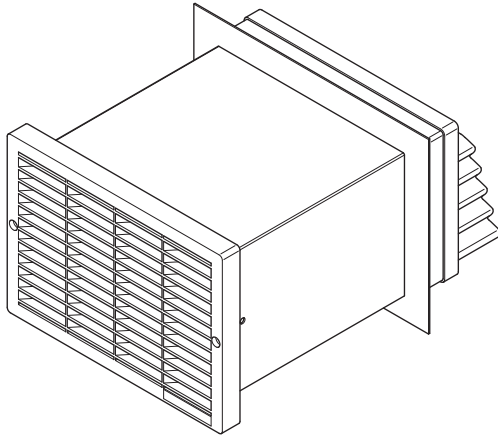

Fig. 1
3. Installation and maintenance for all three units is the same, therefore the majority of this booklet is based on the standard HR100W unit (Fig. 1). For additional information on the other units, please refer to Additional Information (Section 6.0).